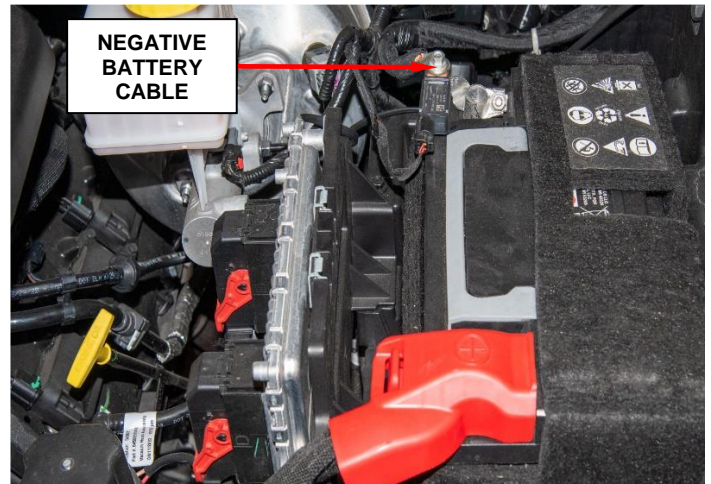

Figure 1 – 12-Volt Battery
1. Remove and isolate the negative battery cable eyelet from the IBS. This will isolate the 12 volt and 48-volt battery from the vehicle electrical system (Figure 1).